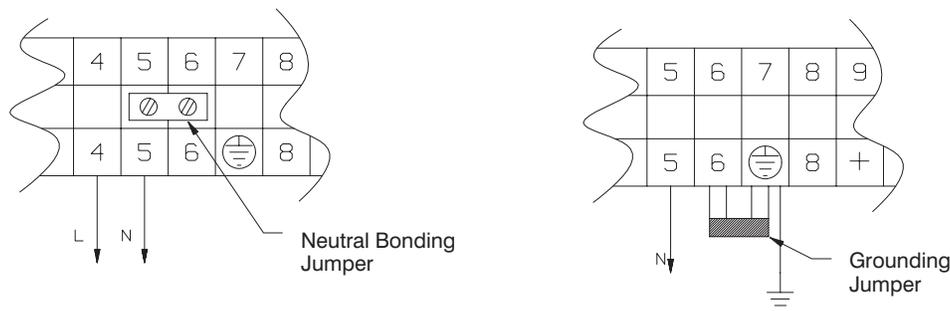

**Figure 17. Grounding Jumper**
6. Locate the grounding jumper between terminals 7 and 8 as shown in Figure 17.